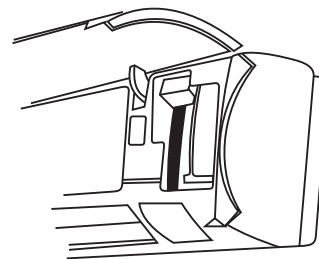

Figure 16
- 4) Connect the wire distribution terminals and corresponding terminals. (Figure 16)